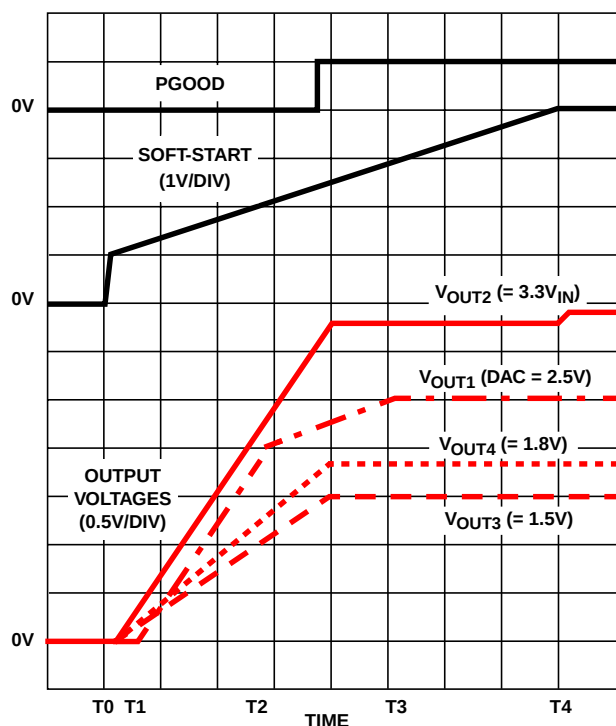
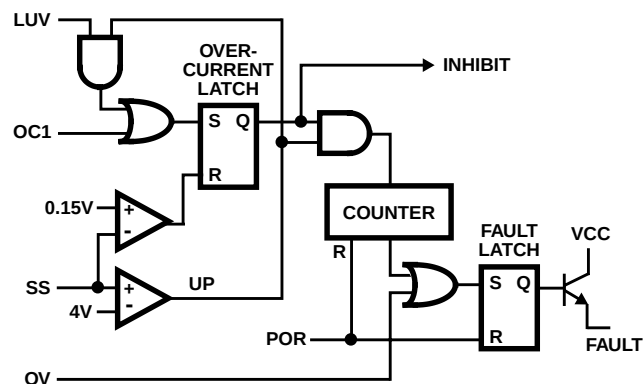

FIGURE 2. SOFT-START INTERVAL
FIGURE 3. FAULT LOGIC - SIMPLIFIED SCHEMATIC
Figure 2 shows the soft-start sequence for the typical application. At T0 the SS voltage rapidly increases to approximately 1V. At T1, the SS pin and error amplifier output voltage reach the valley of the oscillator's triangle wave. The oscillator's triangular waveform is compared to the clamped error amplifier output voltage. As the SS pin voltage increases, the pulse width on the PHASE pin increases. The interval of increasing pulse width continues until each output reaches sufficient voltage to transfer control to the input reference clamp. If we consider the 2.5V core output (V_{OUT1}) in Figure 2, this time occurs at T2. During the interval between T2 and T3, the error amplifier reference ramps to the final value and the converter regulates the output a voltage proportional to the SS pin voltage. At T3 the input clamp voltage exceeds the reference voltage and the output voltage is in regulation.
Figure 3 shows a simplified schematic of the fault logic. An over-voltage detected on VSEN1 immediately sets the fault latch. A sequence of three over-current fault signals also sets the fault latch. The over-current latch is set dependent upon the states of the over-current (OC), linear under-voltage (LUV) and the soft-start signals. A window comparator monitors the SS pin and indicates when C_{SS} is fully charged to 4V (UP signal). An under-voltage on either linear output (VSEN2, VSEN3, or VSEN4) is ignored until after the soft-start interval (T4 in Figure 2). This allows V_{OUT2} , V_{OUT3} , and V_{OUT4} to increase without fault at start-up. Cycling the bias input voltage (+12V_{IN} on the VCC pin off then on) resets the counter and the fault latch.
Initially, the soft-start function clamps the error amplifier's output of the PWM converter. This generates PHASE pulses of increasing width that charge the output capacitor(s). After the output voltage increases to approximately 70% of the set value, the reference input of the error amplifier is clamped to a voltage proportional to the SS pin voltage. The resulting output voltages start-up as shown in Figure 2.